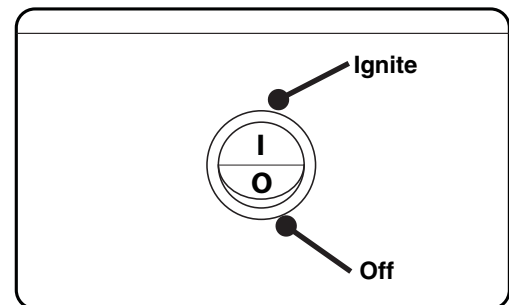

Fig. 15-1 ON/OFF switch
1. Locate the ON/OFF switch on the switch box (see Fig. 15-1), and flip the switch to the "I" (**Ignite**) position.